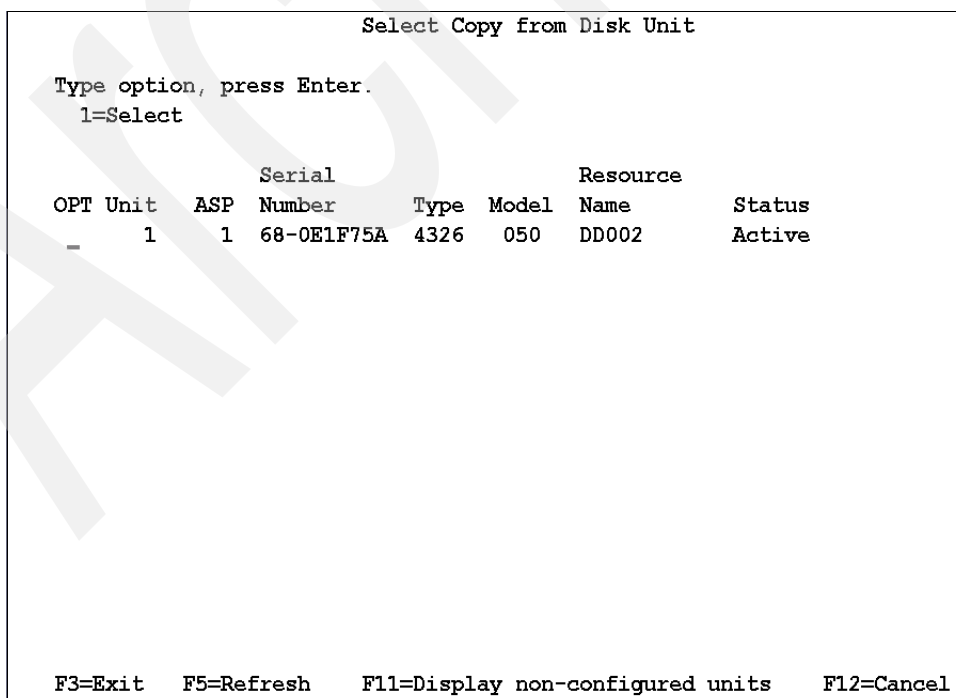

Figure 3-21 The Select Copy from Disk Unit screen
13. In the screen that is displayed (Figure 3-21), select the load source disk unit (disk unit 1) as the unit to copy.